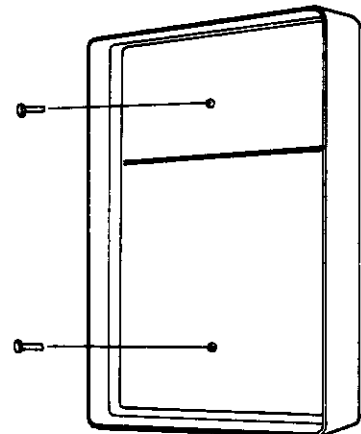

Figure 2 MOUNTING BASE ON WALL
- Mount the base on the wall in the desired location (Figure 2). (Do not over tighten screws. Use only flat head screws.)